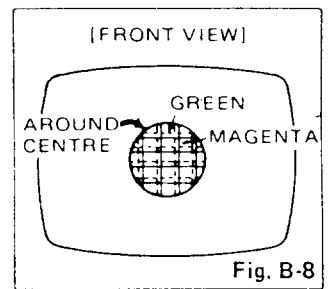

Fig. B-8
4. Rotate the rear pair of tabs as a unit to minimize the separation of the magenta (R/B) and green lines. (Fig. B-8)